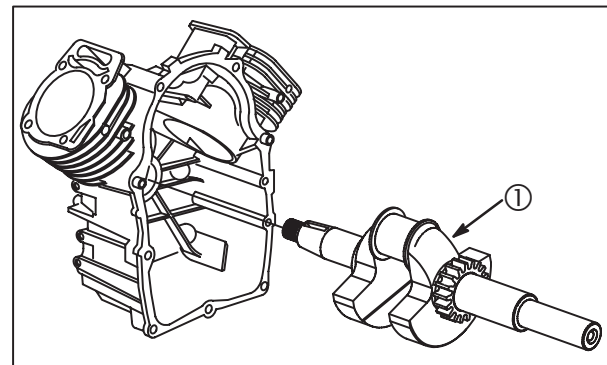

Fig. 28
Remove crankshaft (1) from cylinder, **Fig. 28.**